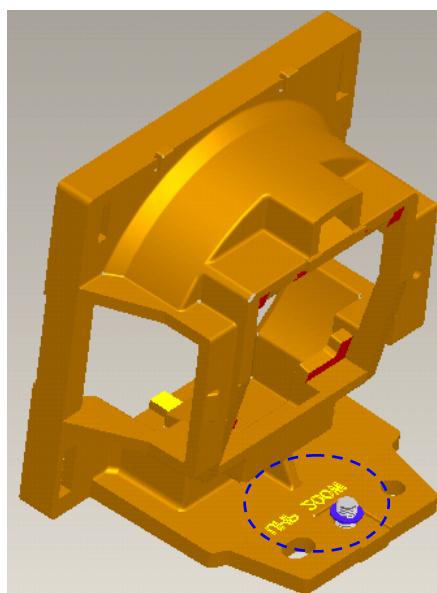

Fig. 1-1
- I. Assemble Washer and Screw to the HLD Lamp(Fig. 1-1)